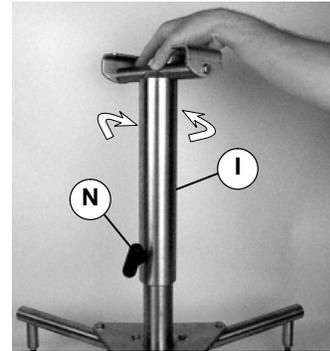

Figure 11
- Loosen knob (N of Figure 11). Rotate outer portion of tube assembly (I) to adjust stand height. Re-tighten knob (N).